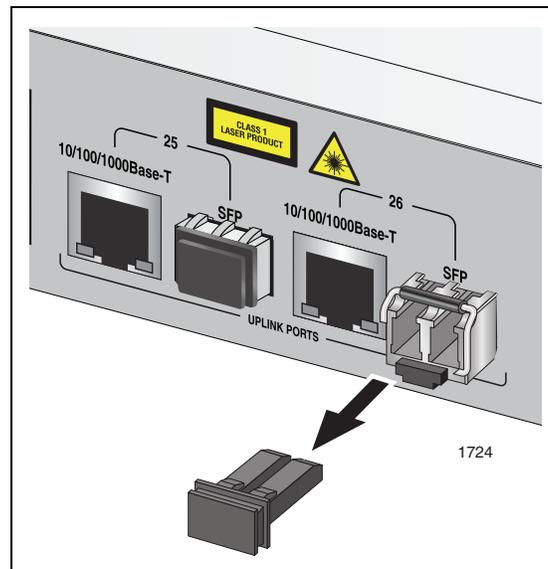

Figure 17. Removing the Dust Plug from the SFP transceiver
1. Remove the dust plug from the SFP transceiver, as shown in Figure 17.